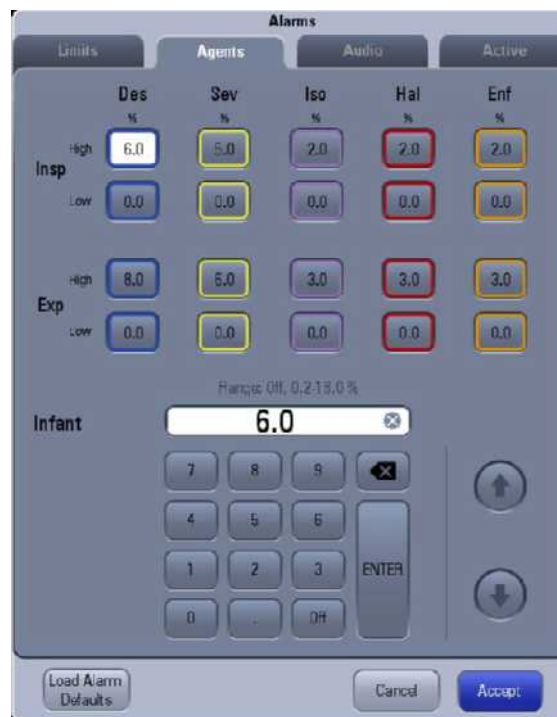

FIGURE 8-1 Agents tab
2. Select the **Limits** tab (See FIGURE 6-7) or **Agents** tab (See FIGURE 8-1).